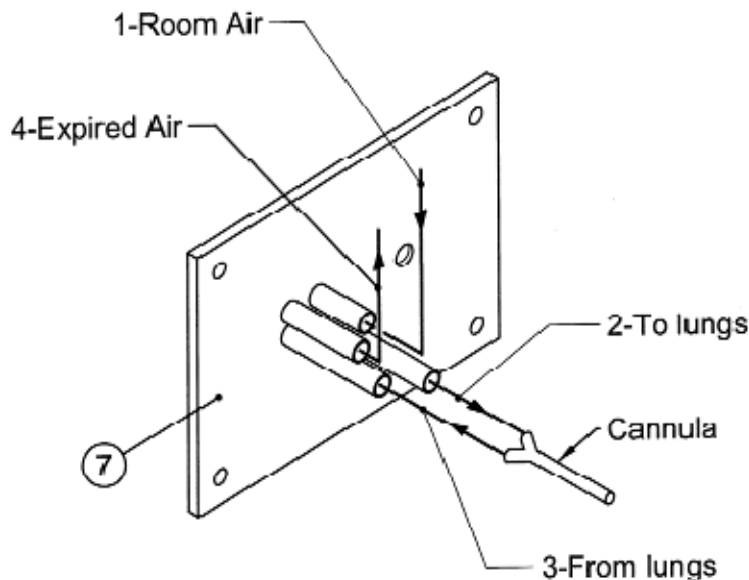

Figure 2 "The Connection Square"
Figure 2 "The Connection Square"	4
The plate (7) is fastened to the structure of the Ventilator and is fitted with the air intake/outtake set. These four connection tubes form what we have christened *the connection square*, see Figure 2 “The Connection Square”, because the tubes are closely packed at the vertices of one cm square.
So close that the tubes have been cut in different lengths, to ease the insertion of the plastic or rubber tubing or input/output, also shown in Figure 2 “The Connection Square”.
The backbone of the instrument is a thick aluminium alloy plate (**27**) onto which most components are fastened: in Figure 7 "Exploded View" we find the geared motor (**12**), the PCB (printed circuit board) (**11**) and the stationary distribution plate (**7**) we have already met in paragraph 2.2.2, illustrated in Figure 2 "The Connection Square".